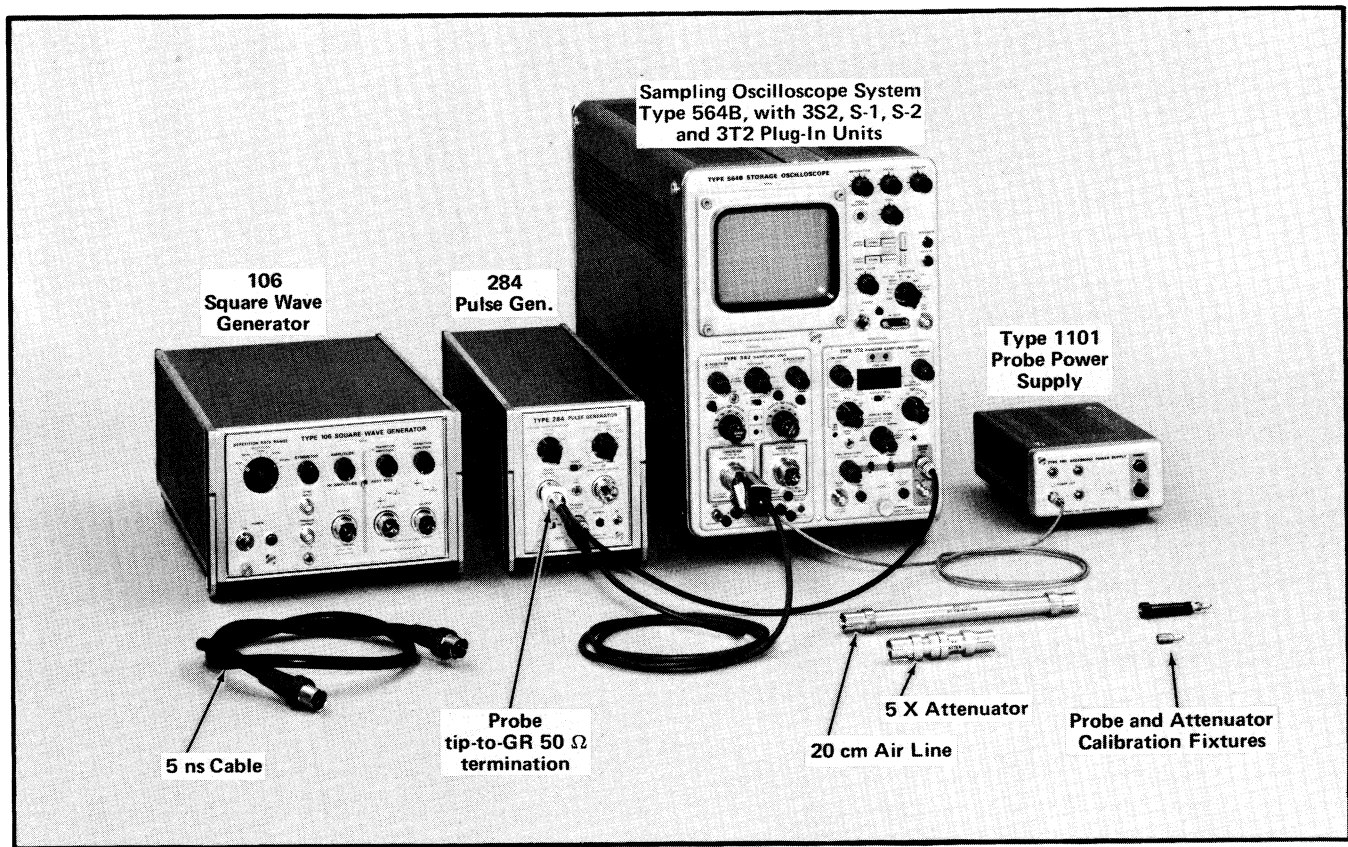

Fig. 5-2. Equipment setup to check/adjust probe compensation, risetime, delay (step 3 through 5).
a. Test equipment setup is shown in Fig. 5-2.
a. Equipment setup is given in Fig. 5-2 and step 3.
a. The equipment setup for this measurement is shown in Fig. 5-2.